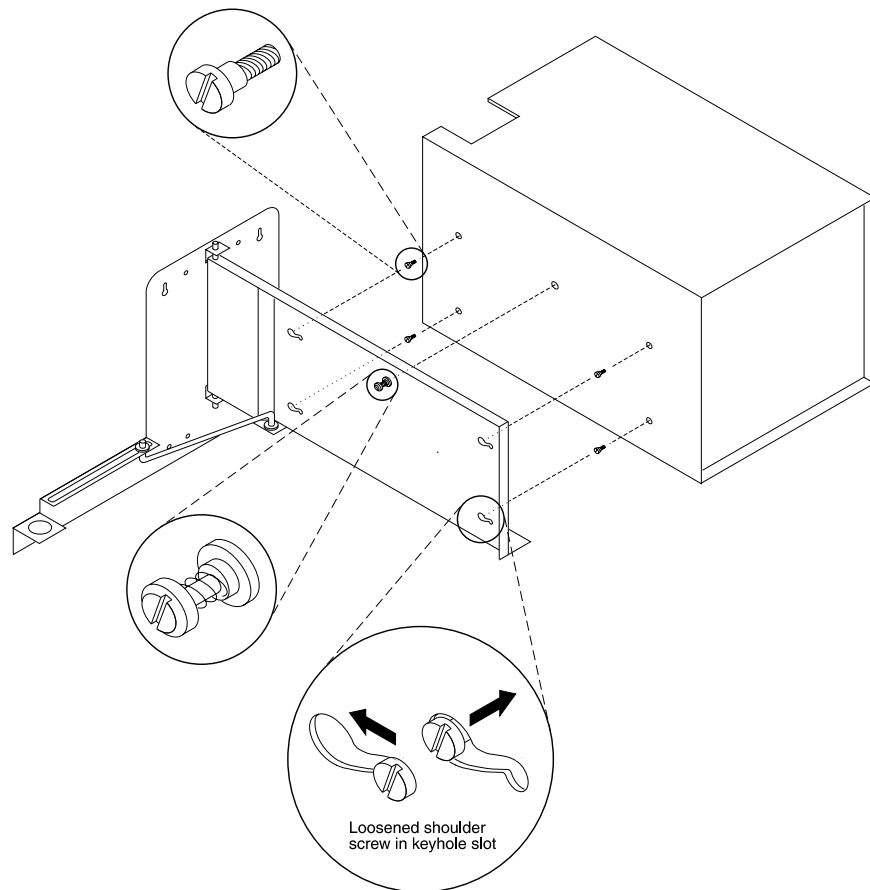

Figure 10-12. Exploded View of Wall-Mounted DEFINITY ECS R5vs System
1. Loosen the four shoulder screws (approximately one complete turn) holding the DEFINITY ECS R5vs cabinet to the mounting panel (see Figure 10-12).